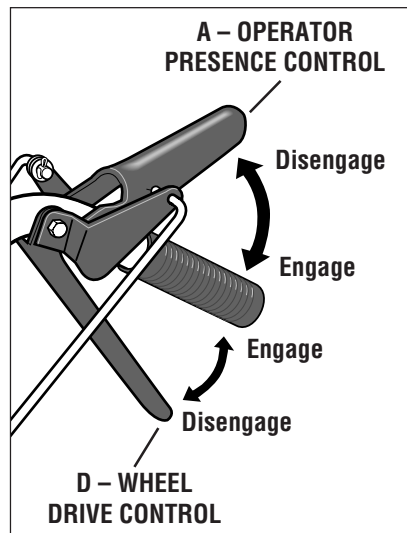

Figure 3-3
Use this lever (D, Figure 3-3) to engage and disengage drive to the wheels.
To engage the wheels, first select a forward or reverse gear with the Gear Select Lever and squeeze the Operator Presence Control (A, Figure 3-3). Then, squeeze the Wheel Drive Control lever (D) against the handlebar grip. The ground speed can be varied by increasing or decreasing pressure on the lever. **To avoid sudden acceleration, slowly squeeze the lever when first engaging the wheels.**